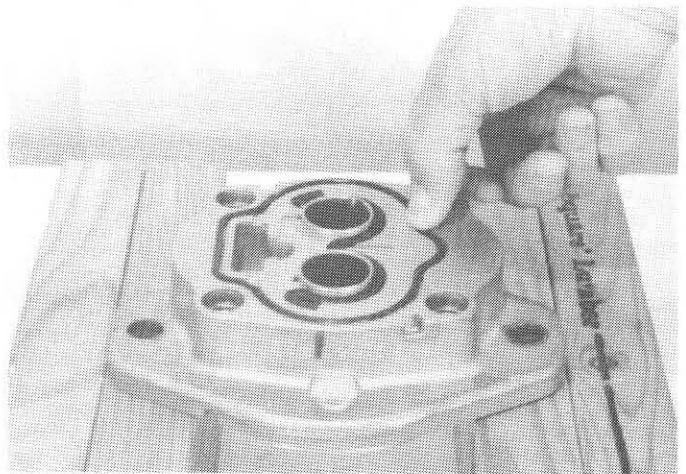

FIG. 19
28. Install nylon back-up strip (8), pressure balance o-ring (9), and flange o-ring (10). A very thin coat of clean heavy grease may be applied to the o-rings to hold them in the grooves. (Fig. 19)